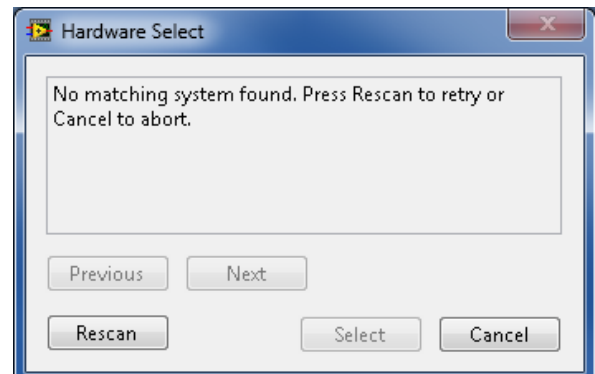

Figure 3.
2. If the SDP board is not connected to the USB port when the software is launched, a connectivity error displays (see Figure 3). Simply connect the evaluation board to the USB port of the PC, wait a few seconds, click **Rescan**, and follow the instructions.